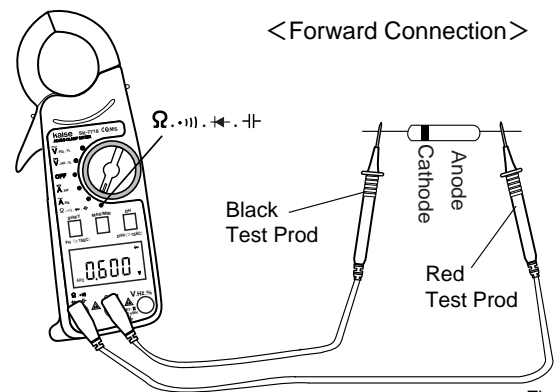

Fig. 13
5. Connect Black Test Prod to Anode and Red Test Prod to Cathode of the diode being measured. This is Reverse Connection. Confirm that the LCD displays OL symbol. Refer to the figure 13.